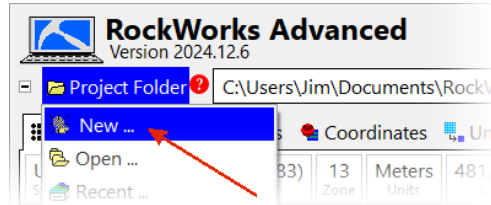

Figure 40
- Click on the *New* option (Figure 40) within the *Project Folder* pull-down menu.